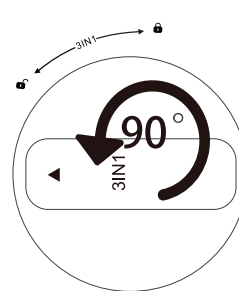

Figure 6
4. Rotate the old cartridge 90° counter-clockwise, so the triangle icon on top of the cartridge is pointed at  icon, remove the old cartridge See **Figure 6**.